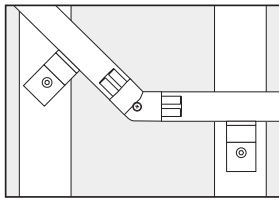

Fig. 6
2. Assemble and position the adjustable joiner on the outside of the handrail and tighten the bolt at the appropriate angle (Fig. 6).